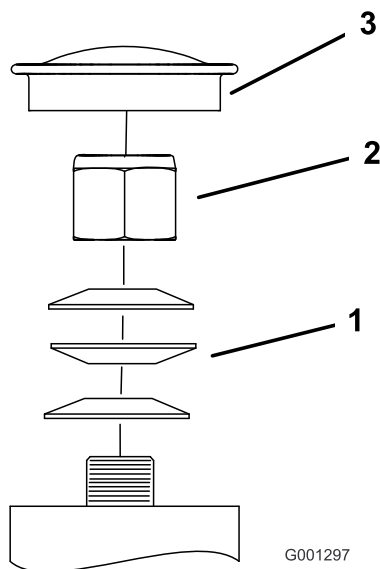

Figure 62
3. Remove the dust cap from caster and tighten lock nut (Figure 62).
4. Tighten the locknut until the spring washers are flat and then back off a 1/4 turn to properly set the pre-load on the bearings (Figure 62).
Important: Make sure the spring washers are installed correctly as shown in Figure 62.
5. Install the dust cap (Figure 62).